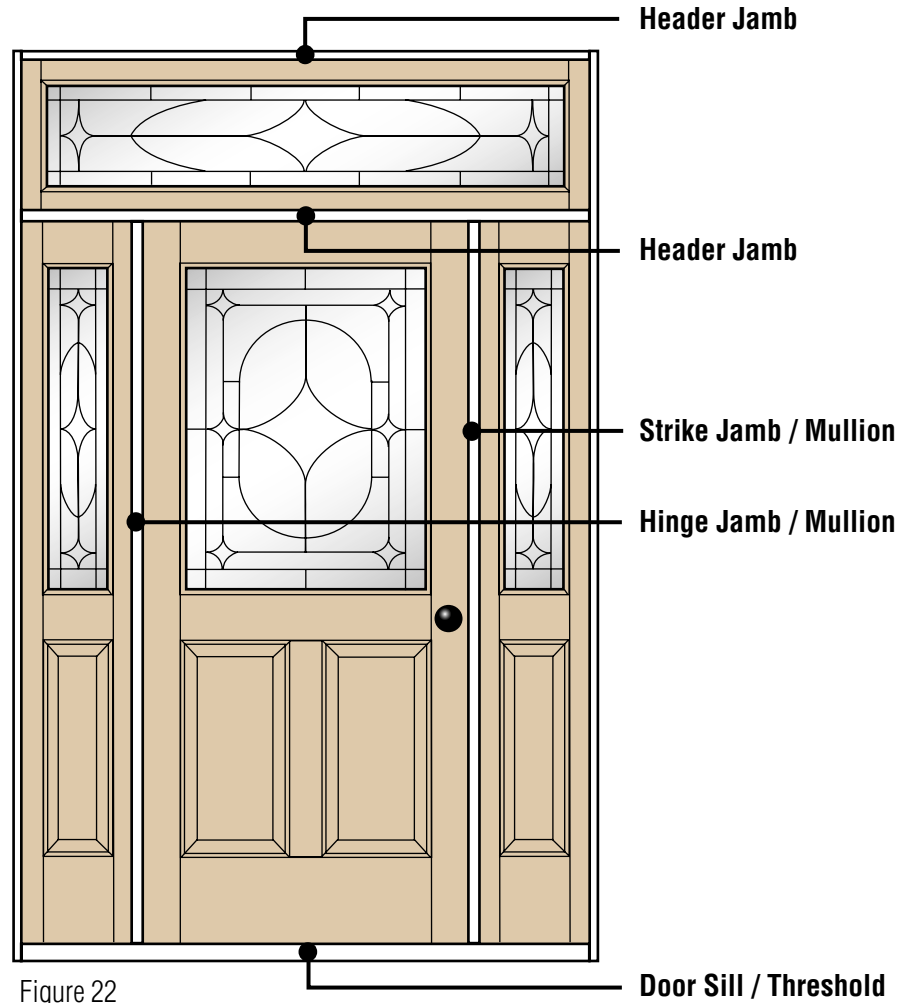

Figure 22
**Elements of the door frame** - Figure 22.